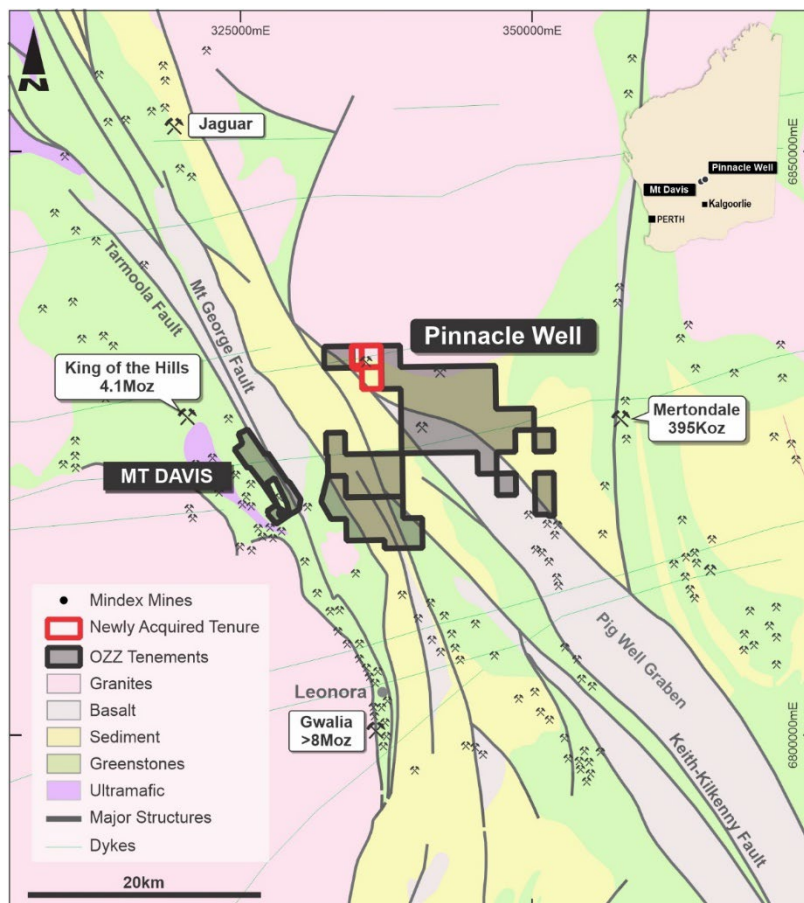

Figure 2 – OZZ Resources Leonora Projects and Regional Geology
The Company has acquired four tenements containing the significant historic Linger and Die mining operation, contiguous with its recently acquired Pinnacle Well Project, located 30km north of Leonora (see Figure 2).
The Linger and Die leases are located approximately 28km north of Leonora. The Project comprises tenements P37/9139, P37/8573, E37/1234 & E37/1235, which are contiguous with OZZ's Exploration Licence E37/1246 and cover a total area of 762Ha (Figures 2 & 3). The project area is located 29km north of Leonora and can be accessed from the Goldfields Highway via a formed dirt track of 12km. A three -building mining camp containing seven bedrooms, a kitchen, laundry and other facilities is located on-site and forms part of the purchase.
The MGL workings are developed in massive coarse-grained granite and it is unclear what is controlling the mineralisation, although they also lie near the boundary of the east-west cross-cutting dolerite dyke (see Figure 2). The MGL structure that causes brittle fracturing of the granite is interpreted as being associated with and parallel to the nearby Keith Kilkenny (KK) shear or possibly a connecting structure between the KK shear and the Gambia Lass Shear.